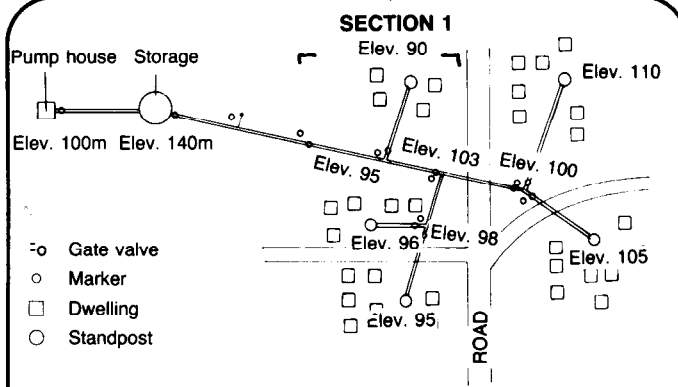

Figure 1. Design Map of Storage and Distribution System
1. A map of the area showing the location of the storage tank in relation to the water source and the community. Include important landmarks, elevations, if known, and distances on the map. Figure 1 gives an example of the type of map which should be provided.